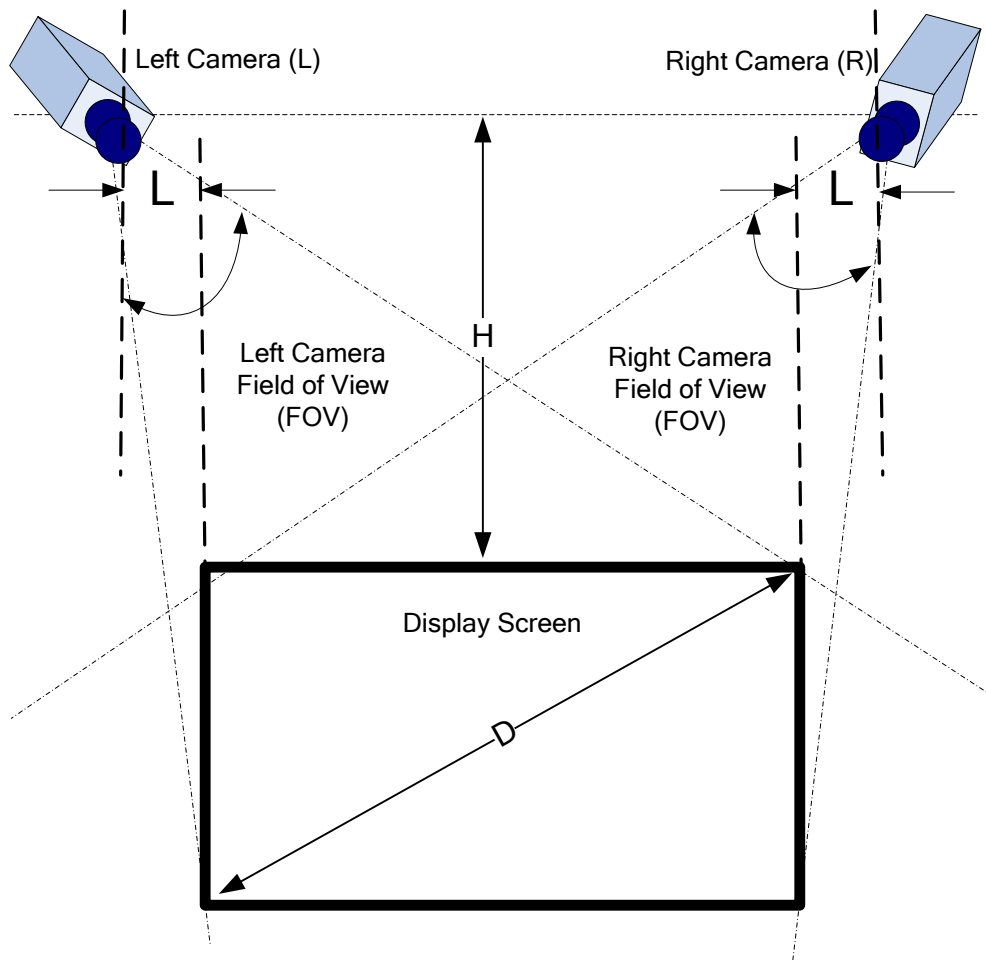

Figure 8: Camera Installation Diagram
The system can only operate at full performance when the cameras are kept parallel with one another and the camera pair installed centrally over the center of the display screen as shown in Figure 8 below.
2. Use Figure 8 and Table 5 below to determine the height before installing the cameras, depending on the lens used.